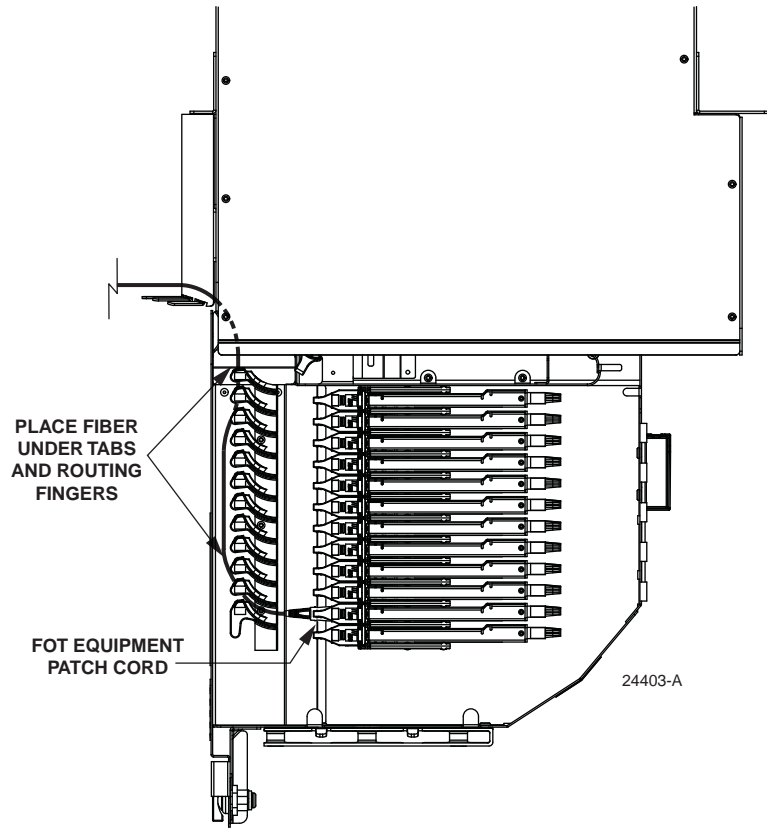

Figure 64. Routing FOT Patch Cords Within MicroVAM Chassis - Front Entry (12-Slot Chassis Shown)
5. Route the patch cord within the chassis as shown in Figure 63 and Figure 64.